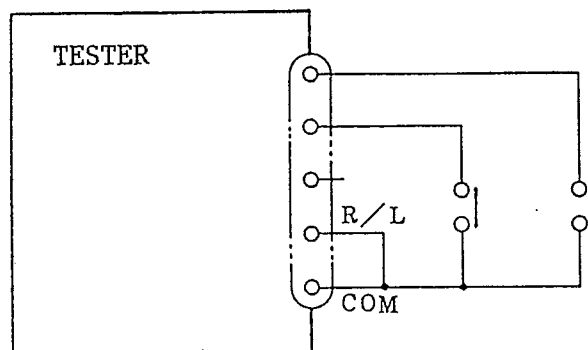

Figure 4.3 Remote Control with Contact Signals
- (1) Examples of low active control are shown in Figure 4.3 and 4.4.